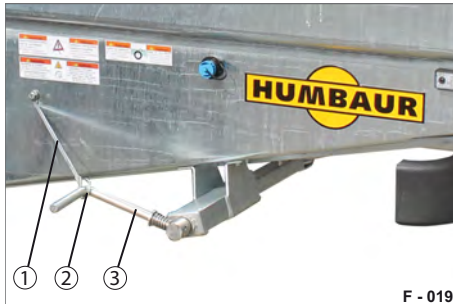

Fig. 44 Screw parking brake secured in drive position
- ▶ Release the hook (Fig. 44/2) from the crank (Fig. 45/1).